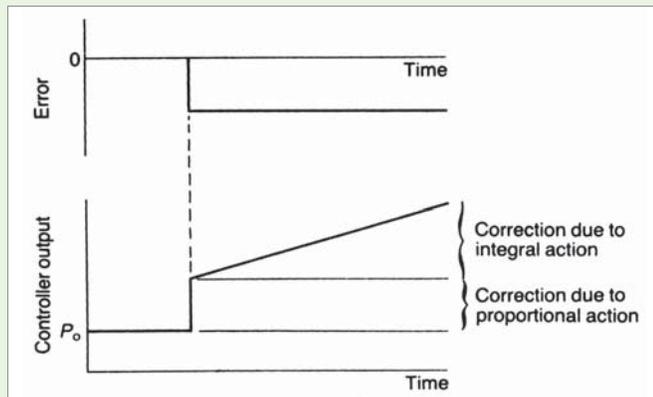

Figure 10: Proportional + Integral control characteristics
Integral control is normally integrated with the proportional control to become the so-called Proportional-plus-Integral (PI) control. Adding integral control to a proportional controller compensates for the *load change* (Figure 10).